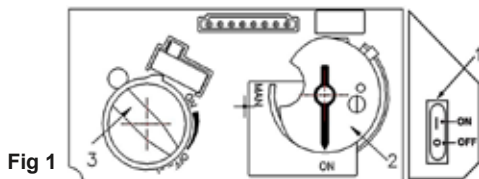
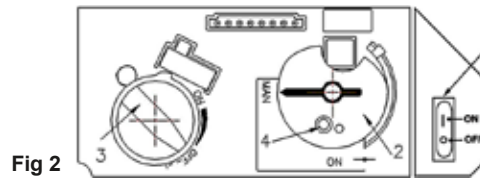
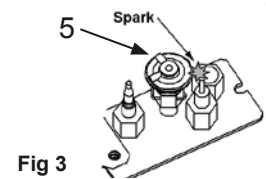

Fig 1
Fig 2
Fig 3
2. **SET ON/OFF SWITCH (1) TO "OFF" POSITION.**
- Wait five (5) minutes to clear out any gas, then smell for gas, including near the floor. **If you smell gas, STOP!** Follow "B" in the safety information above on this label. If you don't smell gas, go to the next step.
3. **AUTOMATIC IGNITION** (Fig. 1): Locate the pilot (Fig. 3.) inside of firebox at left hand side.
- ON/OFF switch (1) in ON position, MAN-knob (2) in ON position; set Flame Adjustment knob (3) to lowest setting (U).
- When the pilot is lit, the Flame Adjustment knob (3) will automatically rotate to the highest setting.
4. **MANUAL IGNITION** (Fig. 2): With the window off, locate the pilot (Fig. 3) inside of firebox at left hand side.
- ON/OFF switch (1) in ON position, MAN-knob (2) in MAN position.
- Set Flame Adjustment knob (3) to the lowest setting (U).
- Push down the metallic core (4) with a pen or similar instrument; this will establish the pilot gas flow.
- Light gas at the pilot (5) with a match.
- Continue holding down metal core (4) for about 10 seconds; after release, pilot should remain lit.
- If the pilot will not stay lit after several tries, turn the gas control knob (3) to OFF (U) and call your local service technician or gas supplier.
- Reinstall the window and set the MAN-knob (2) to ON; turn Flame Adjustment knob (3) up (U) or down (U) manually or use the flame buttons (🔥) buttons on the remote control handset to adjust the flame height.